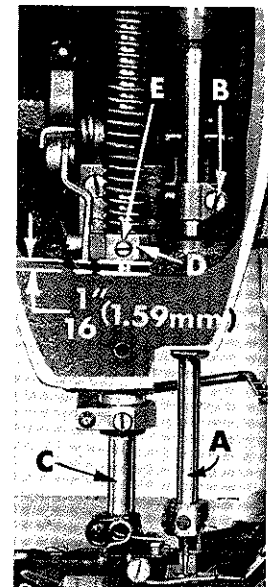
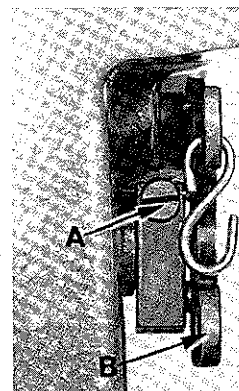

Fig. 4
Fig. 16
Align the needle bar (A, Fig. 4) and set to height, using the proper test pins and test plate of the right gauge. See chart below:
If test plate and test pins are not available, insert a new set of needles (Type and Size as required) and align the needle bar so that the needles correspond with the vertical face of the needle guard. To turn needle bar, loosen needle bar clamp screw (B, Fig. 4) and turn bar as required. Tighten clamp screw.
The height of the needle bar should be correct if proper test plate and test pins were used to "align" needle bar. If not, the height of the needle is correct when the top of its eye is $3/64$ inch (1.19 mm) below the underside of the looper, with the looper point flush with the left side of the left needle. If adjustment is necessary, loosen screw (B, Fig. 4) and move needle bar (A) up or down as required and retighten screw. Care should be taken not to disturb the alignment of the needle bar when moving it up or down.
If adjustment is needed, loosen tension release lever screw (A, Fig. 16) located at the back of the machine and move tension disc separator as required. Retighten screw. After adjustment there should be no binding at any point.
The height of the presser bar (C, Fig. 4) is set correctly if it is possible to remove the presser foot when the foot lifter lever (B, Fig. 16) is fully depressed. Also there should be approximately 1/16 inch (1.59 mm) clearance between lower surface of the presser bar connection and guide (D, Fig. 4) and the bottom surface of head opening in the bed when the foot lifter lever is released and the presser foot resting on the throat plate, with the feed dog down below the throat plate.
If adjustment is needed, turn handwheel in operating direction until the needle bar is in the low position. Loosen screw (E, Fig. 4) then, while holding presser foot down on the throat plate surface, pry up presser bar connection and guide with a screwdriver to obtain the 1/16 inch (1.59 mm) setting and retighten screw. Check setting by turning handwheel so that needle bar is in its high position and see if presser foot can be removed as mentioned in previous paragraph.